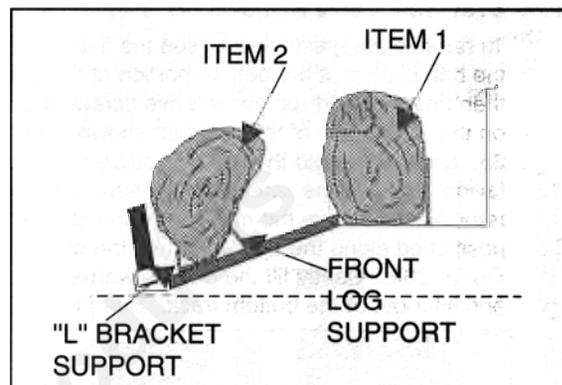
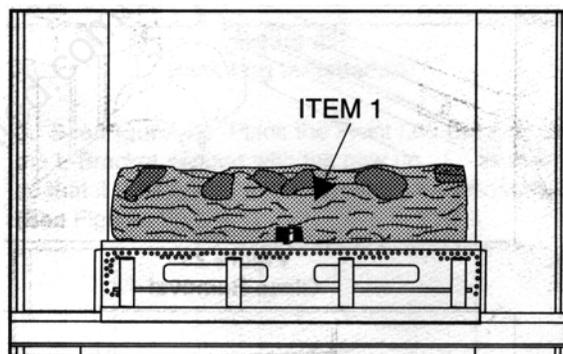

Figure 30
Figure 31
2. See Figure 31. Place the Back Log (Item 1) on the Back Log Support ensuring that the log is in front of the sheet metal tabs. The flat surface of the log will be against the sheet metal tabs. (See Figure 30.)